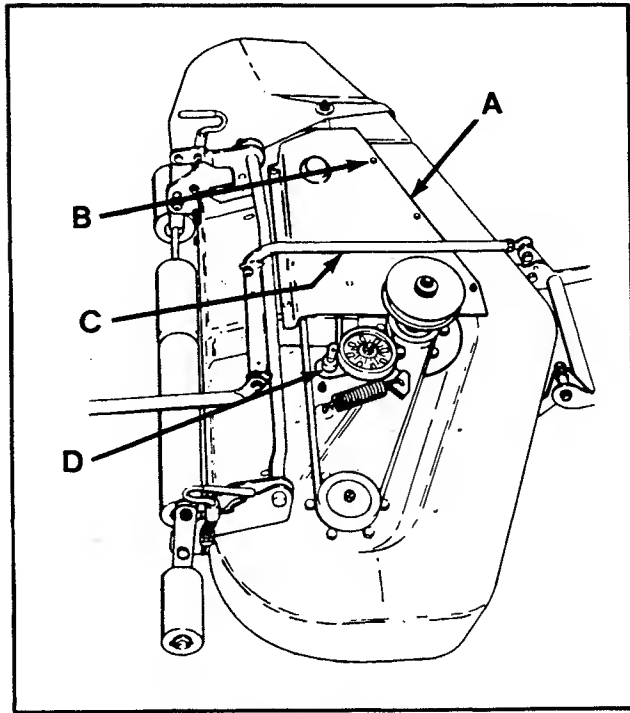

FIGURE 12 - Idler Pulley Pivot
3. Remove the taptite screws to remove the right hand cover (both covers can be removed to check/clean inside of mower deck). See Figure 12.